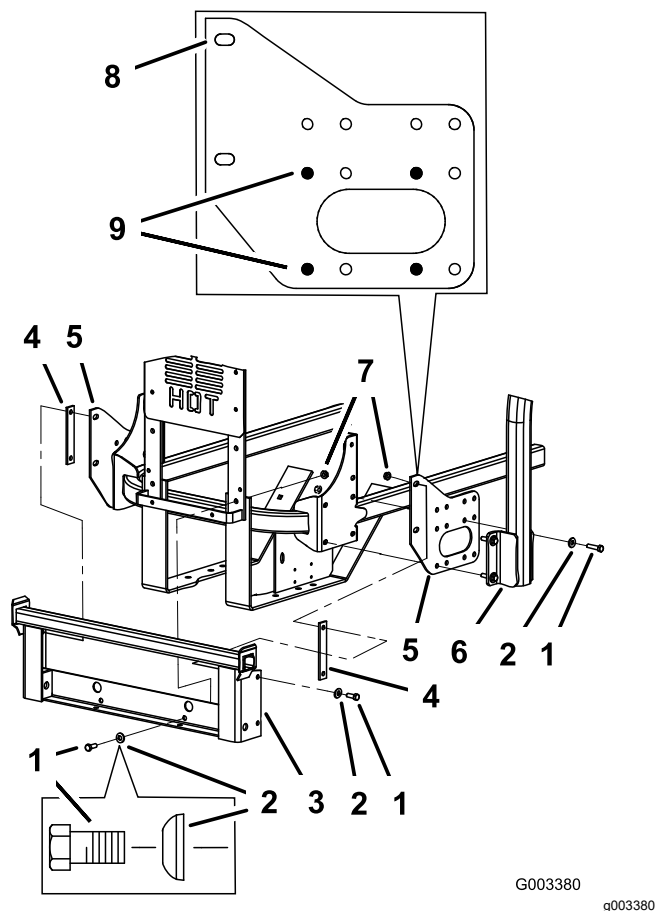
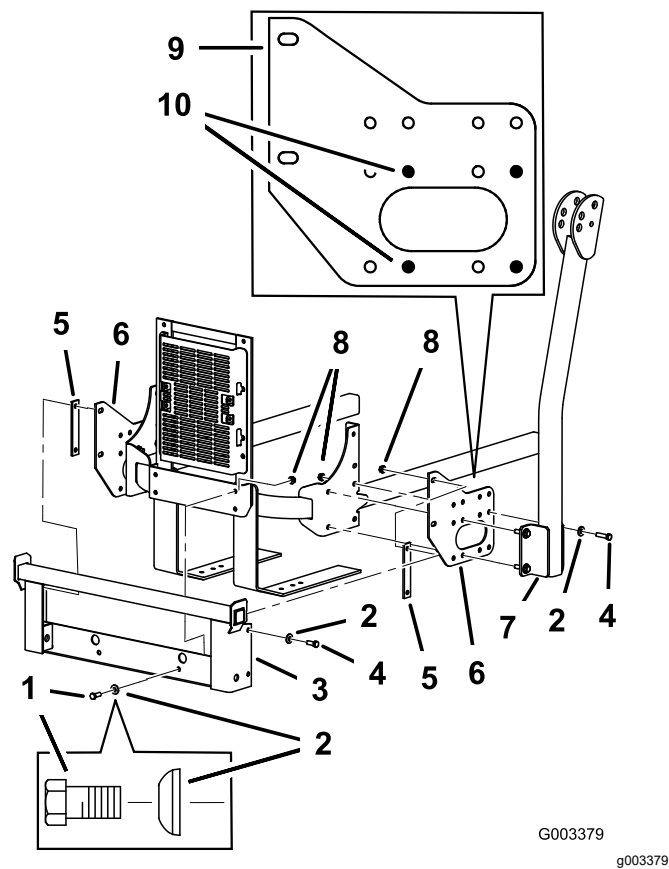
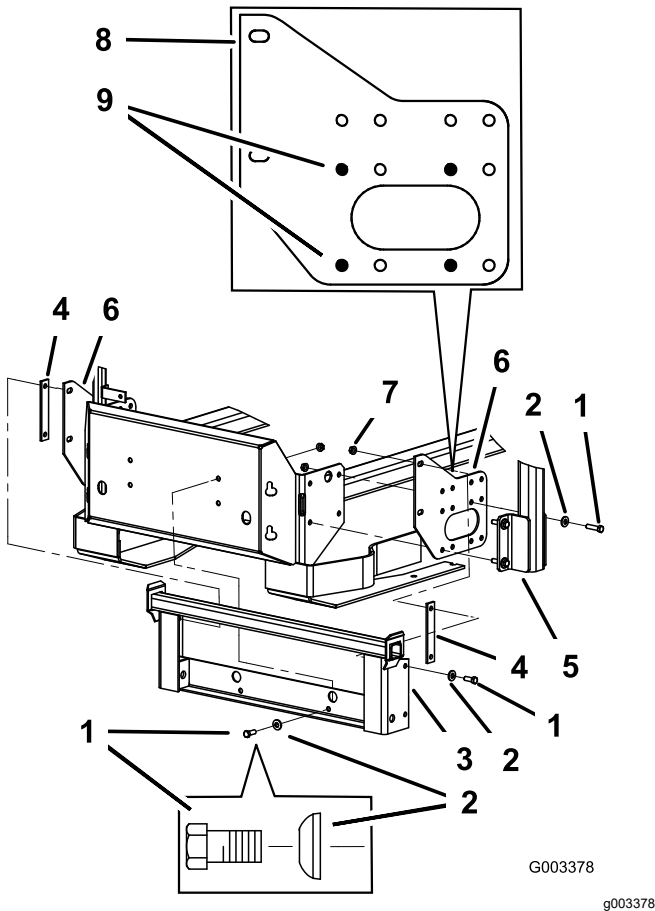

Figure 4
Figure 5
Figure 6
1. Remove the bolts, nuts, and washers holding the roll bar to one side of the machine. Discard the nuts, bolts, and washers (Figure 4, Figure 5, and Figure 6).
2. Install the bagger side plate and the roll bar section to the side of the machine using 4 bolts (3/8 x 1-1/2 inches), 4 curved washers (3/8 inch), and 4 flange nuts (3/8 inch) (Figure 4, Figure 5, and Figure 6).
3. Repeat the steps above for the opposite side (Figure 4, Figure 5, and Figure 6).
Note: Make sure the curved washers are installed as shown in Figure 4, Figure 5, and Figure 6.
4. Install the bagger mounting bracket to the left and right side bagger brackets with 4 bolts (3/8 x 1-1/2 inches), 4 curved washers (3/8 inch), and 4 flange nuts (3/8 inch) (Figure 4, Figure 5, and Figure 6).
5. Install the bagger mounting bracket to the rear frame of the machine with 2 bolts (3/8 x 1-1/2 inches) (use 2 bolts (3/8 x 1 inch) for Z593 mowers as shown in Figure 5), 2 curved washers (3/8 inch), and 2 flange nuts (3/8 inch) (Figure 4, Figure 5, and Figure 6).
3. If the bagger mounting bracket moves side to side an 1/8 inch or more, install one or both of the spacers between the bagger mounting bracket and mounting plates (Figure 4, Figure 5, and Figure 6).